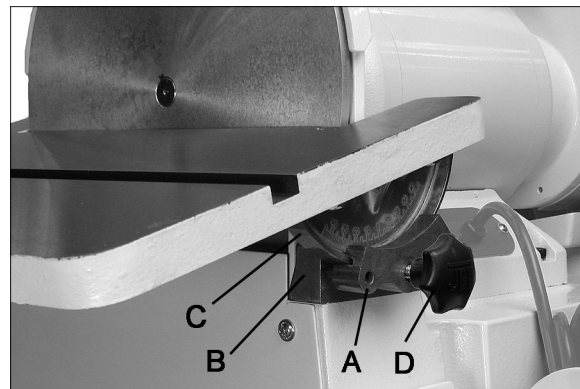

Figure 12
1. Remove the left and right trunnion brackets (A, Figure 12) from the trunnion holder (B).